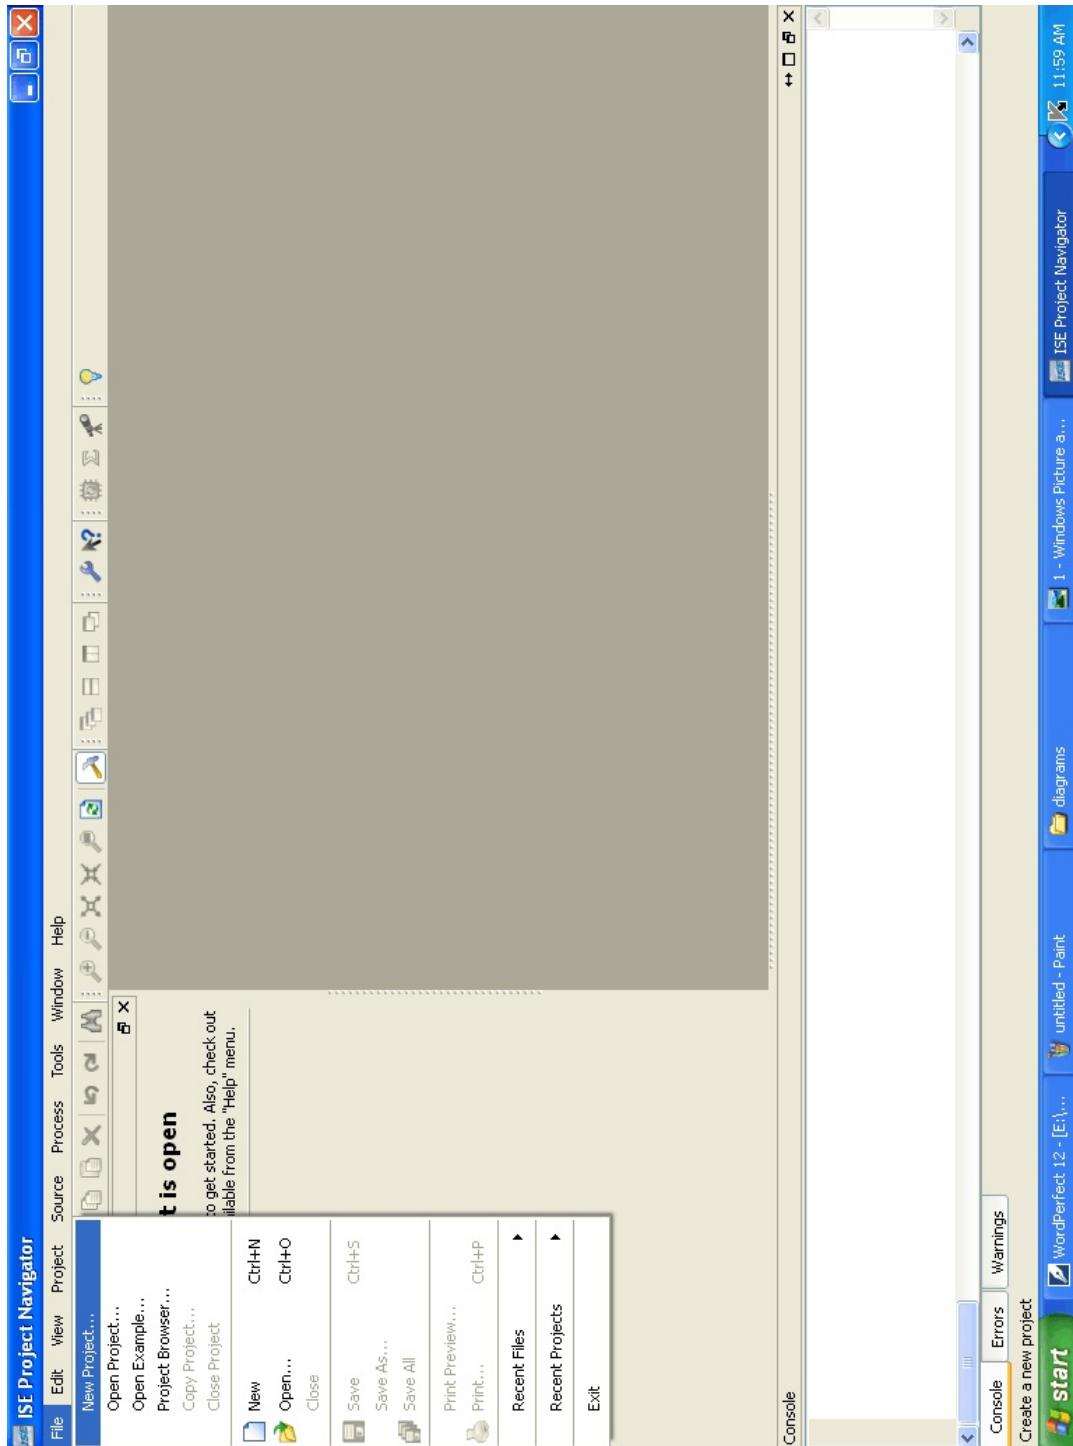

Figure-3
1. Select **File > New Project** (refer figure-3).